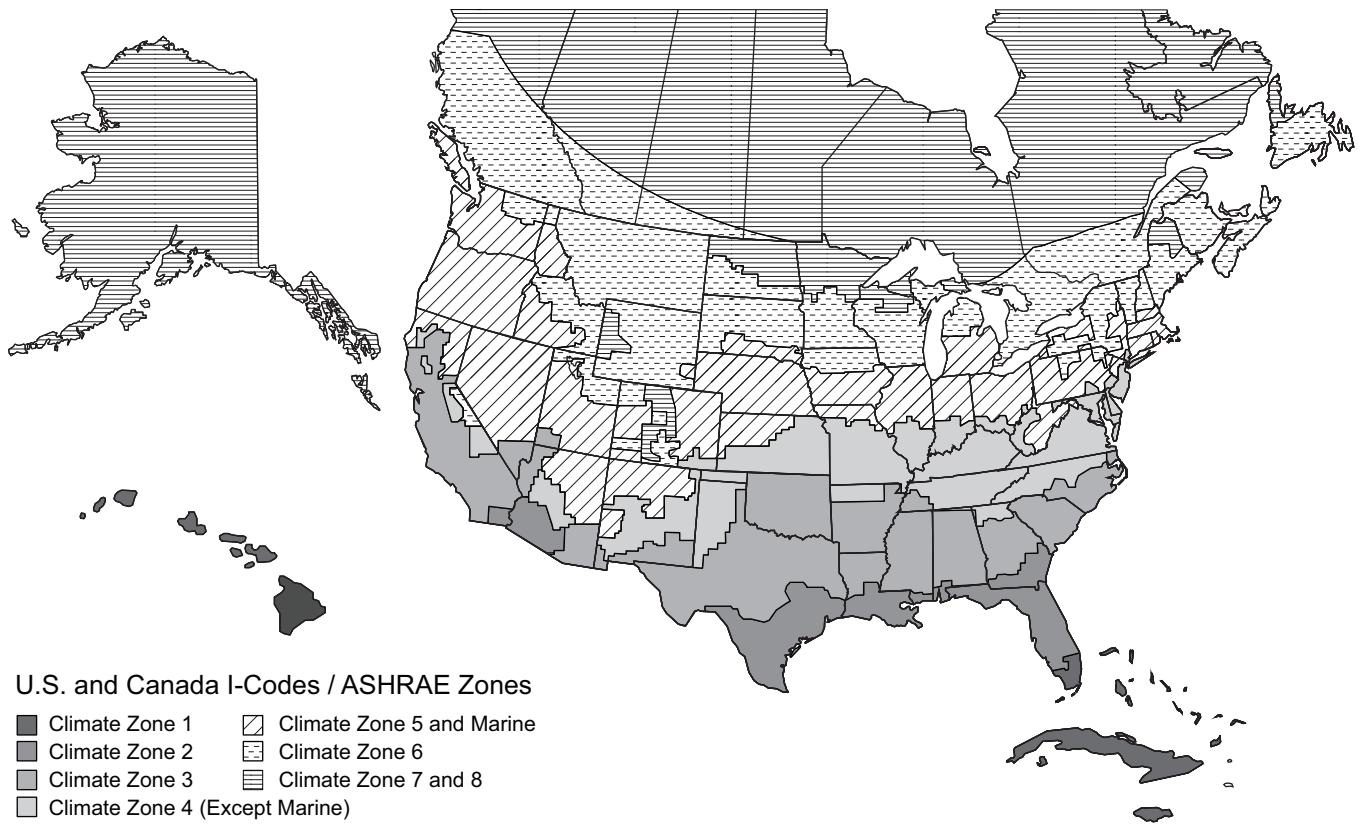

Fig. 66 — U.S. and Canada Climate Zones
- Refer to Fig. 66 for map of U.S. and Canada climate zones.